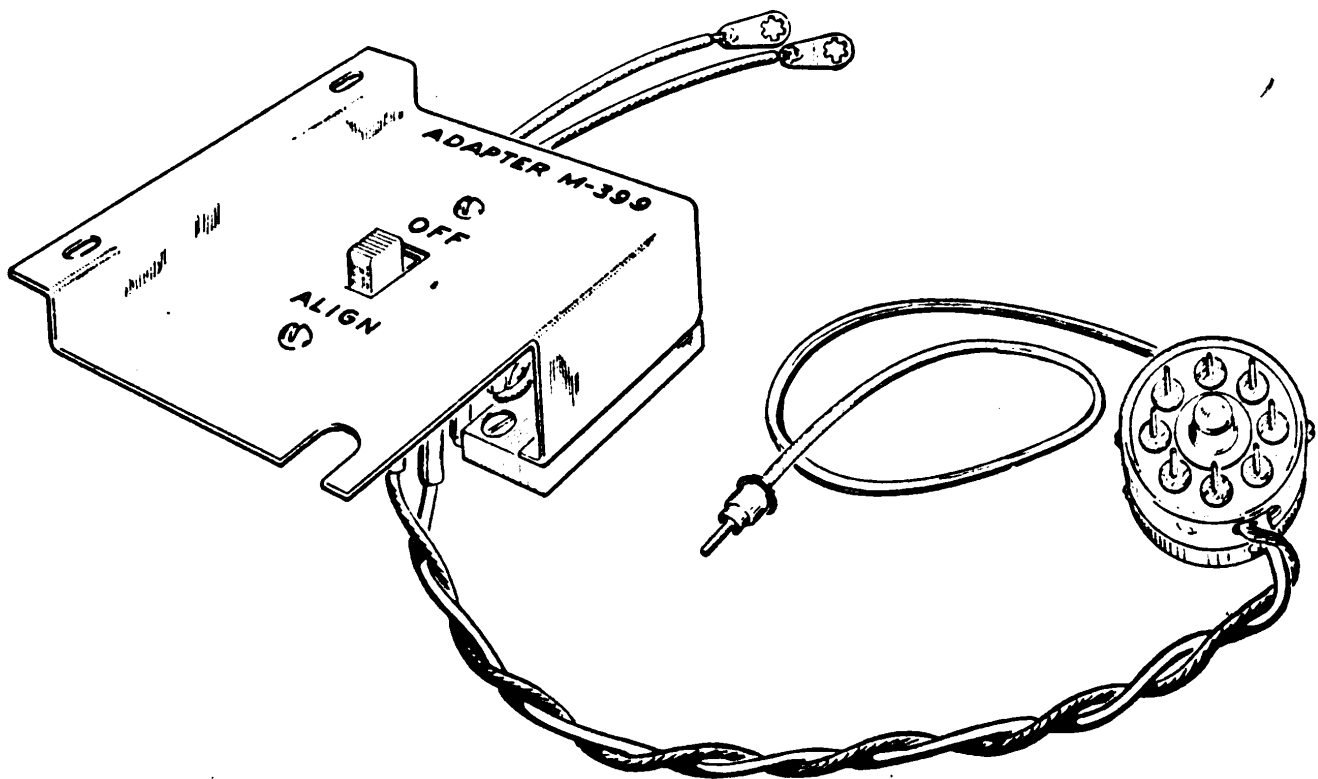

FIG. 4—ADAPTER M-399, TOP VIEW
(1) Adapter M-399 is used with Alignment Equipment ME-73 for aligning Radio Sets SCR-609-(*) and SCR-610-(*).
(2) Adapter M-399, see Figs. 4 and 5, consists of a metal bracket on which is mounted a terminal block and a d.p.d.t., OFF ALIGN, slide switch that is connected to a separate tube-socket-adapter plug having a metering lead. The switch also is connected to the terminal block, and has two separate leads.
(3) The bracket of Adapter M-399 is designed for permanent installation in Receiver-Transmitter BC-659-(*). When it is installed, and the connections made properly, the adapter switch at ALIGN converts the receiver amplifier stage of the set into a vacuum-tube-voltmeter circuit utilizing the panel meter of the set. This permits the changing of channels as well as complete alignment of the set without using an external meter. With the adapter switch at OFF, Adapter M-399 does not interfere with the ordinary use of the set.